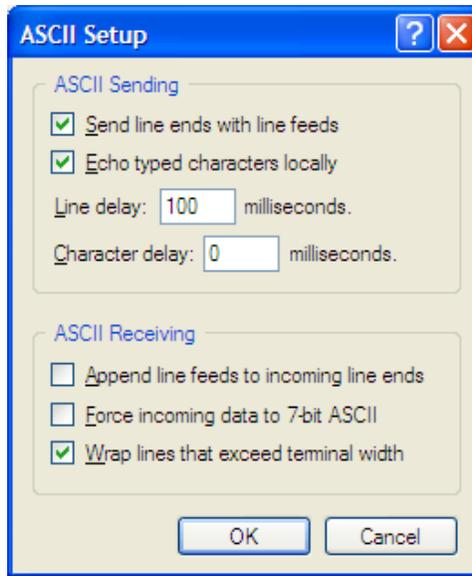

Figure B-5. ASCII Setup Dialog Box
- b. Click the ASCII Setup button. Make the following selections using Figure B-5 as a guide: